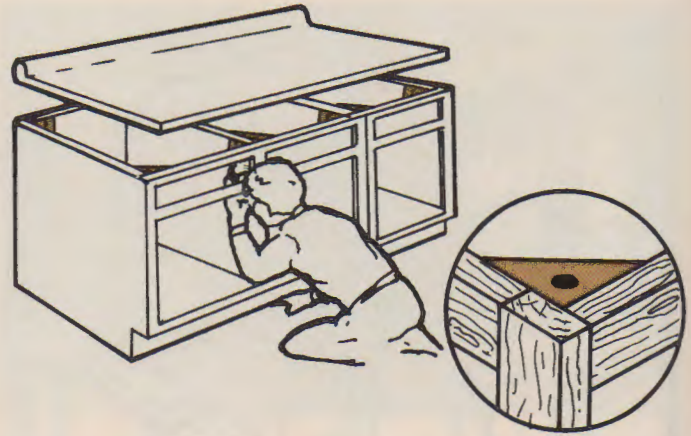

Fig. 49-38. Use corner blocks through which screws will attach the counter top. (American Woodmark Corp.)
5. Attach the countertop, Fig. 49-38. Drive the proper length screws through corner blocks into the top.